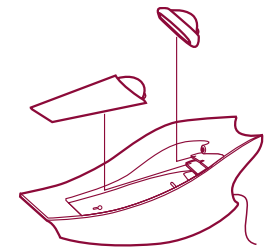

Fig. 14
- When not being used, place them in the compartment in the battery-charger base. (fig. 14)